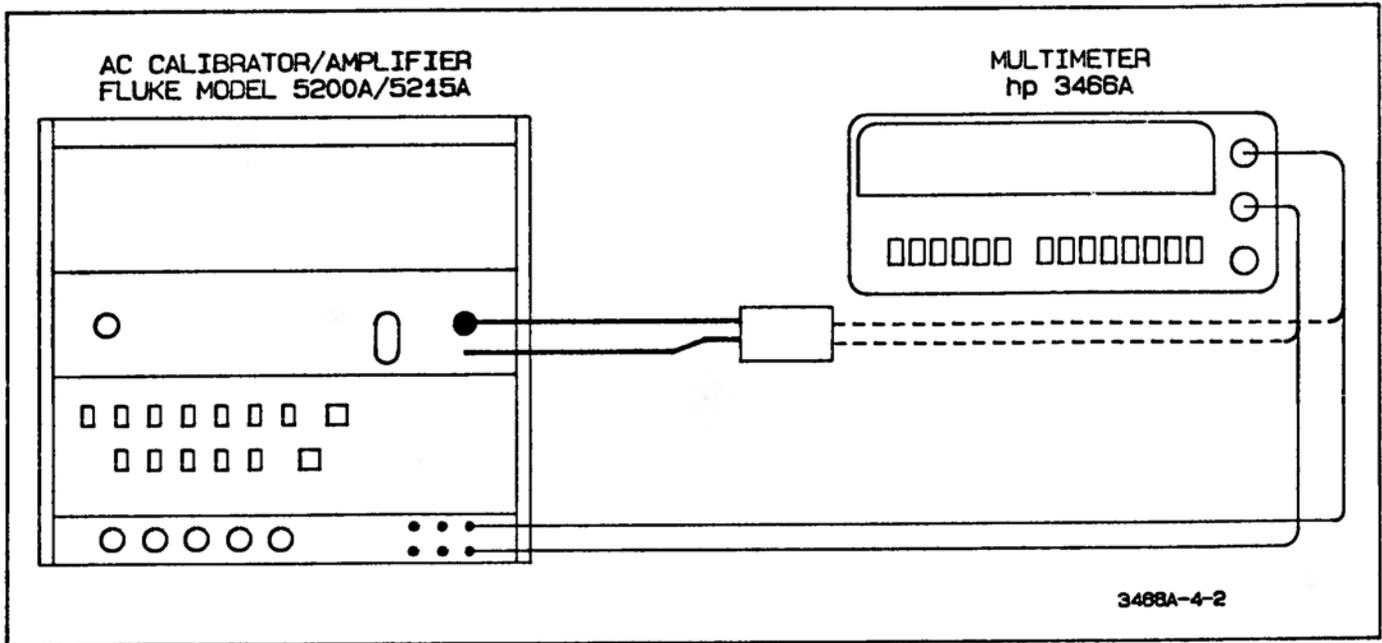

Figure 4-2. AC Voltmeter Accuracy Test
- b. Connect the AC Calibrator to the 3466A's input terminals as shown in Figure 4-2.